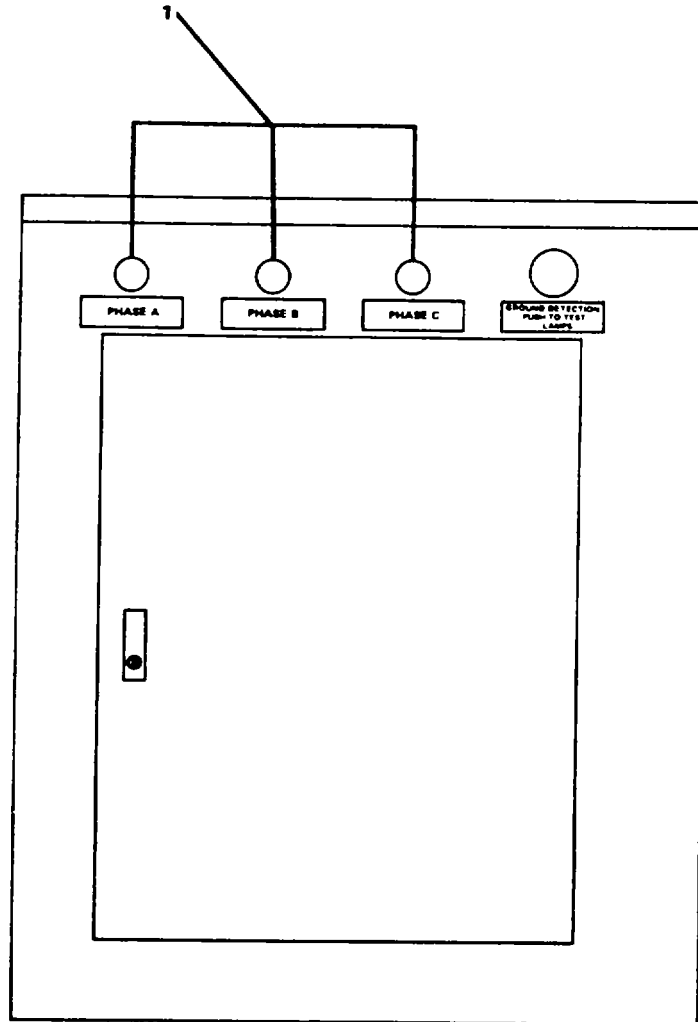

Figure 2-53. Load Center Typical.
a. Remove indicator lens cap (1, Figure 2-53) by grasping between thumb and forefinger and turning slightly while pulling straight out.